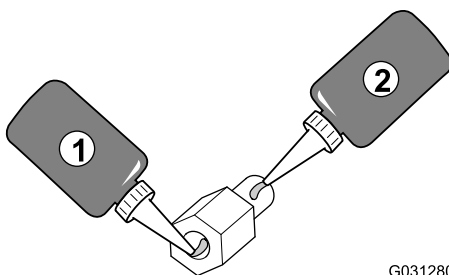

Figure 156
- Apply a coat of thread-locking compound (wicking—medium-high strength) to the threads for the nut portion of the threaded standoff (Figure 156).
for the stud portion of the threaded standoff (Figure 156).